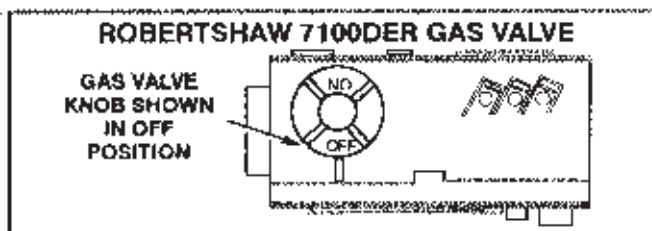

FIGURE 3
**Gas Valve Operation for Robertshaw 7100DER Series Valve (Figure 3 - 5)**
- 6- On Robertshaw 7100D and Honeywell VR8204 gas valves, turn knob on gas valve clockwise to OFF. Units with Robertshaw 7200 gas valve, depress lever and move to OFF position. Do not force. See figures 3 through 5.